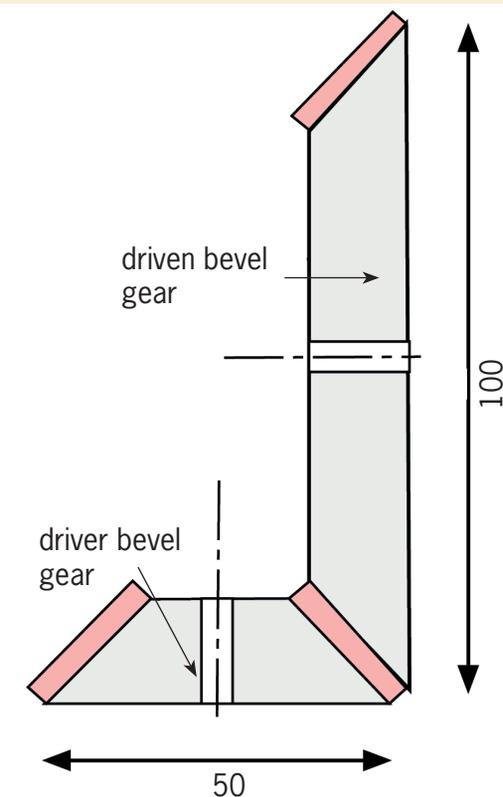

Figure 3
1. Study Figure 3 and then make a sketch of the system shown.
Draw the straight gears as rectangles and the bevel gears like those shown in Figure 3.